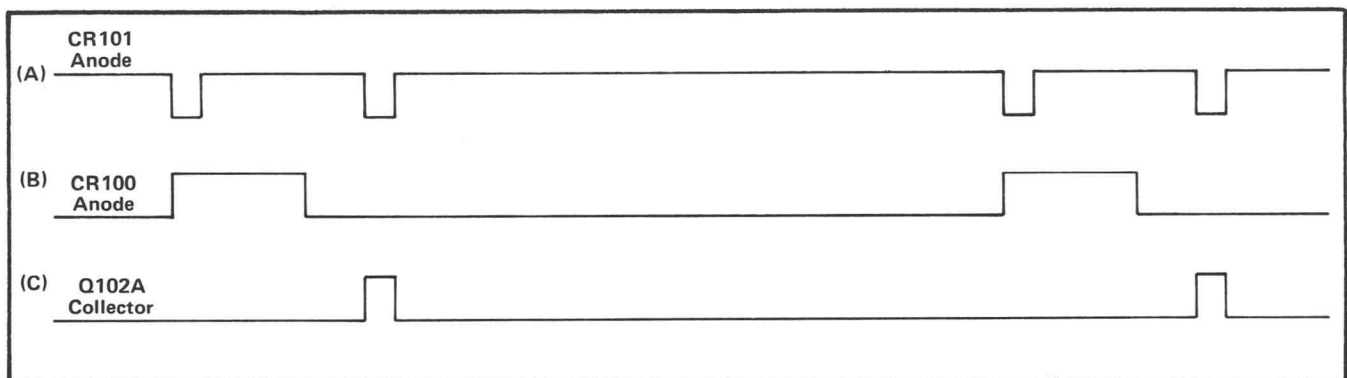

Fig. 3-11. Time relationship of waveforms used to develop the Read Amp clamp.
The signal at U145C (8) is also coupled to U145B (7), another two-input gate, which also has its other input connected to the erase gate interval switch. Since no inhibit signal is being received at U145B (6), the blanking ears are coupled through the gate and appear at U145B (5) in the same polarity as at U147C (5). The output of U145B (5) is coupled to the input of inverter U48D (10). The signal is inverted by U48D and appears at the anode of CR101 as a negative-going signal, (Fig. 3-11 A). CR100, CR101, and Q102A form a NOR gate to develop the Read Amplifier clamp. The signal on the anode of CR100 is a positive-going H Drive pulse (Fig. 3-11 B). Q102A is turned off if either of the two diodes is forward biased and the output of the gate (collector of Q102A) is in the 0 state. By referring to Fig. 3-11 A and B it can be determined that the inputs to the gate are in the 1 state except during the time of the second blanking ear. During the time of the second blanking ear the diodes are reverse biased, the transistor is turned on and the Read Amplifier clamp is developed (see Fig. 3-11). When the erase gate interval or write only functions are